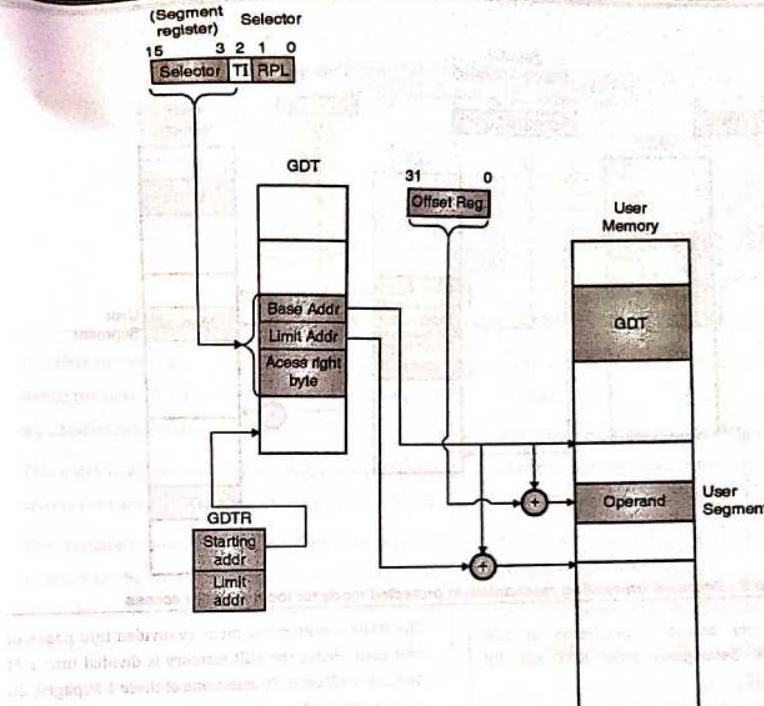

Fig. 12.6.7 : Segment translation mechanism in protected mode for global memory access
- The offset address must not be more than the limit address or else it will generate a exception interrupt 5 i.e. bound exception. This access of global memory or segment translation mechanism for global data is as shown in Fig. 12.6.7.